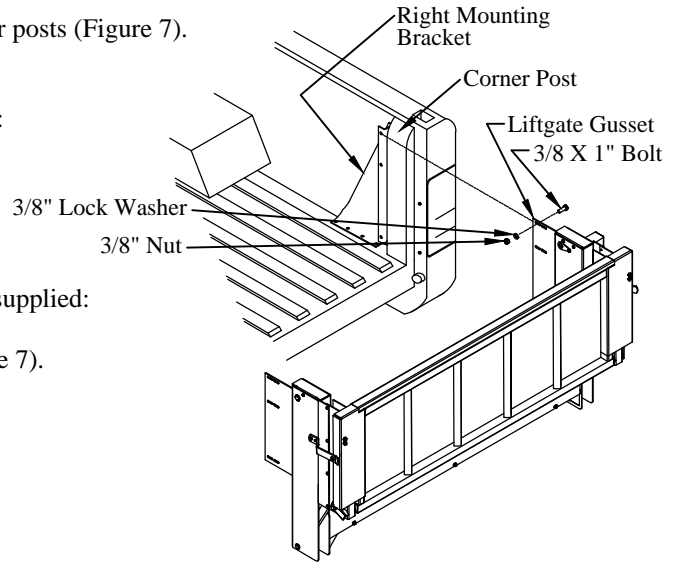

Figure 7: Mounting bracket and liftgate.
1. **Position** the mounting brackets into the truck bed in front of the corner posts (Figure 7).
- (3) 3/8"x1" hex head bolts on the bracket-side (Figure 7).
- (3) 3/8" lock washers, and (3) 3/8" nuts on the gusset-side (Figure 7).
7. **Drill** two (2) 3/8" holes into the truck bed floor using two holes in the bracket as a guide.